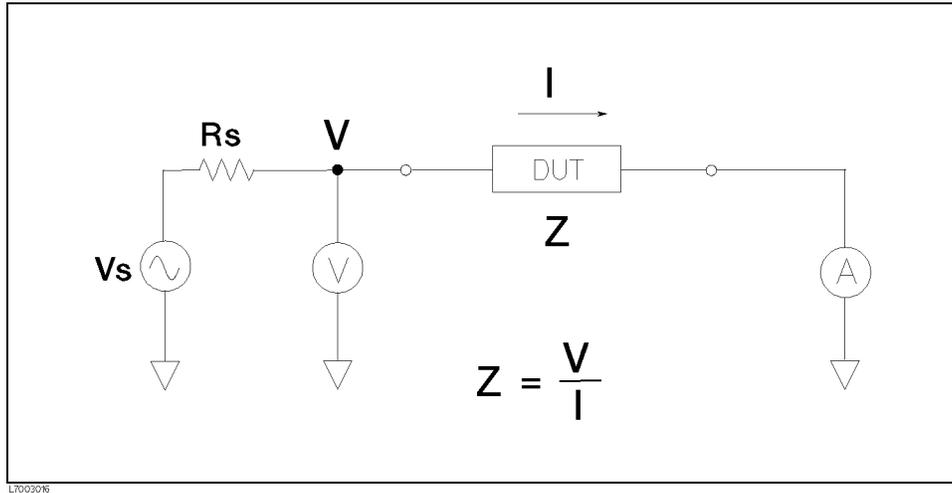

Figure 3-6. Simplified Model of Impedance Measurement
Figure 3-6 shows the simplified model of the 4263B impedance measurement. V_s is the test signal level (voltage) and R_s is the source resistance. If the current across the DUT is I when a test signal voltage V is applied, the DUT's impedance, Z , is expressed by,
Figure 3-6 shows the 4263B's simplified model. The actual current level applied to a DUT depends on the test signal level (V_s), the DUT's impedance value (Z), and the 4263B's source resistance (R_s) which is in series with the DUT. The actual current level (I) through the DUT is calculated using the following equations.